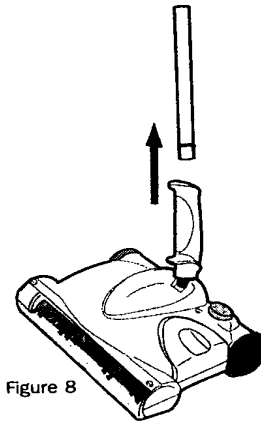

Figure 8
1. Remove the main handle (fig.8).